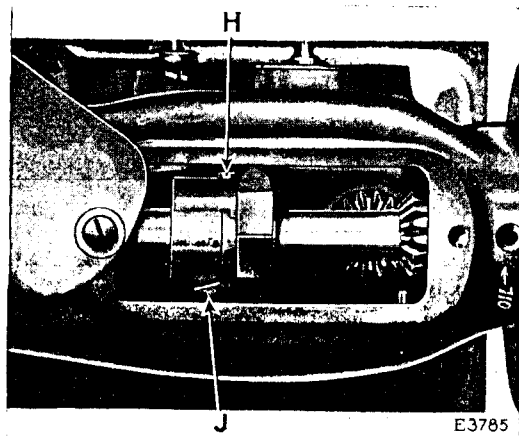

Fig. 12. Adjustment for Regulating Amount of Travel of Needle Bar
Swing back the cover plate at the top of the machine and loosen the screw (H, Fig. 12) in the needle bar driving eccentric on the arm shaft. To increase the throw or amount of travel of the needle bar for a longer stitch, turn the large screw (J, Fig. 12) on the needle bar driving eccentric over to the left or upwardly. To decrease the throw of the needle bar for a shorter stitch, turn the large screw (J) over to the right or downwardly. When the required throw of the needle bar is obtained, firmly tighten the screw (H).